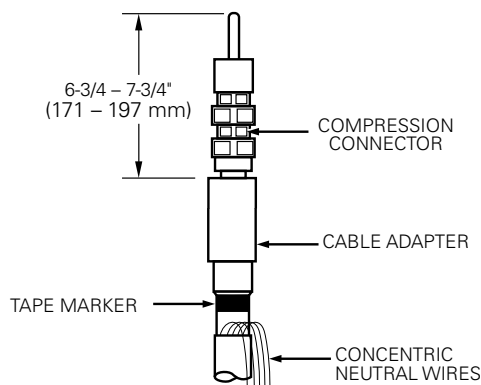

Figure 11. Line illustration for dimensional check.
- Length should be between 6-3/4" and 7-3/4" (171-197 mm). (Refer to Figure 11.)